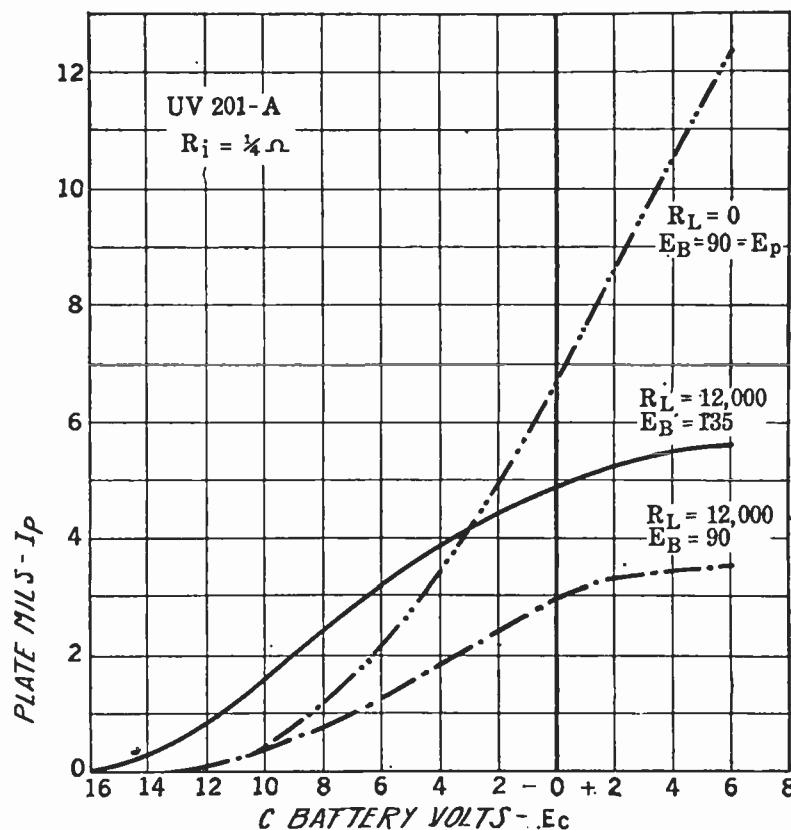

FIG. 2
- e. Plot the results similar to Fig. 2.
As soon as the grid goes positive, current flows in the grid circuit, depressing the input voltage, and the plate current curve flattens out or actually drops. Distortion is inevitable because the plate current no longer is an exact replica of the applied voltage. The tops of the waves are completely obliterated and the plate current jumps about when incoming signals force the grid positive. What comes from the loud speaker differs widely from what leaves the transmitting station. Curves which show this flattening are in Fig. 2 in which the load impedance is 12,000 ohms, and many excellent curves of this nature may be found in a recent article in *Popular Radio* by Hugh S. Knowles.